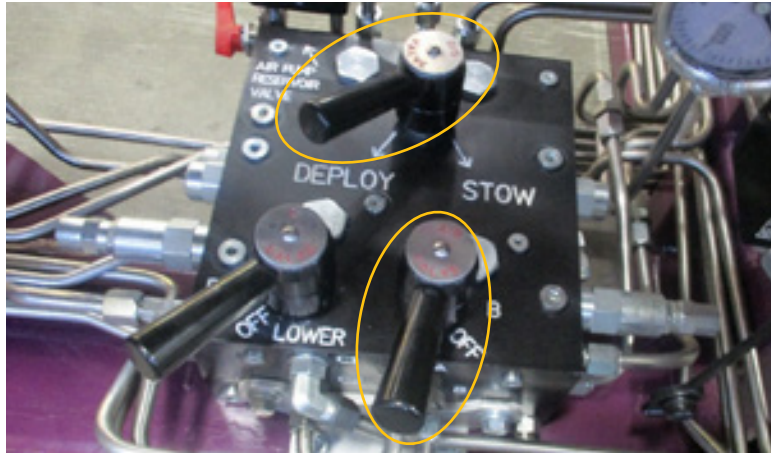

Figure 5.24 D/S set to “Deploy”; A/B valve set to “A”
- 5.4.7 Select DEPLOY / STOW valve (also called the D/S valve) and turn handle to DEPLOY (*Figure 5.24*).
- 5.4.8 Rotate A/B selector valve to the A position (*Figure 5.24*). This will begin transition from Horizontal to Vertical orientation.